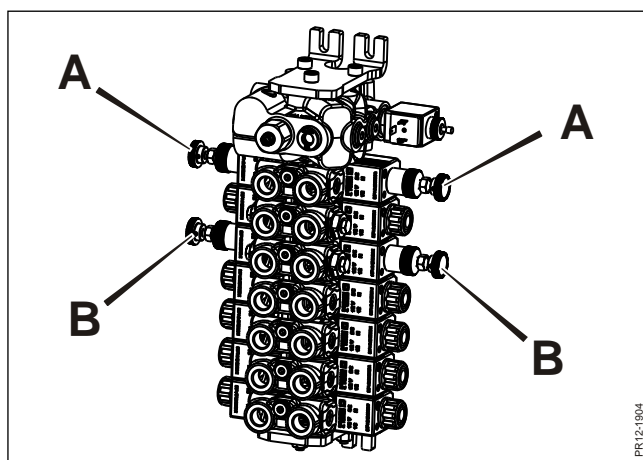

Fig. 2-2
**Fig. 2-2** The adjustment screws **A** are used to adjust the speed at the drawbar. The adjustment screws **B** are used to adjust the deflector. The machine is supplied from the factory with the flow adjusted to the recommended rate. Slacken the nuts and turn the adjustment screws to change this. Tighten the nuts again when you are happy with the level of adjustment.